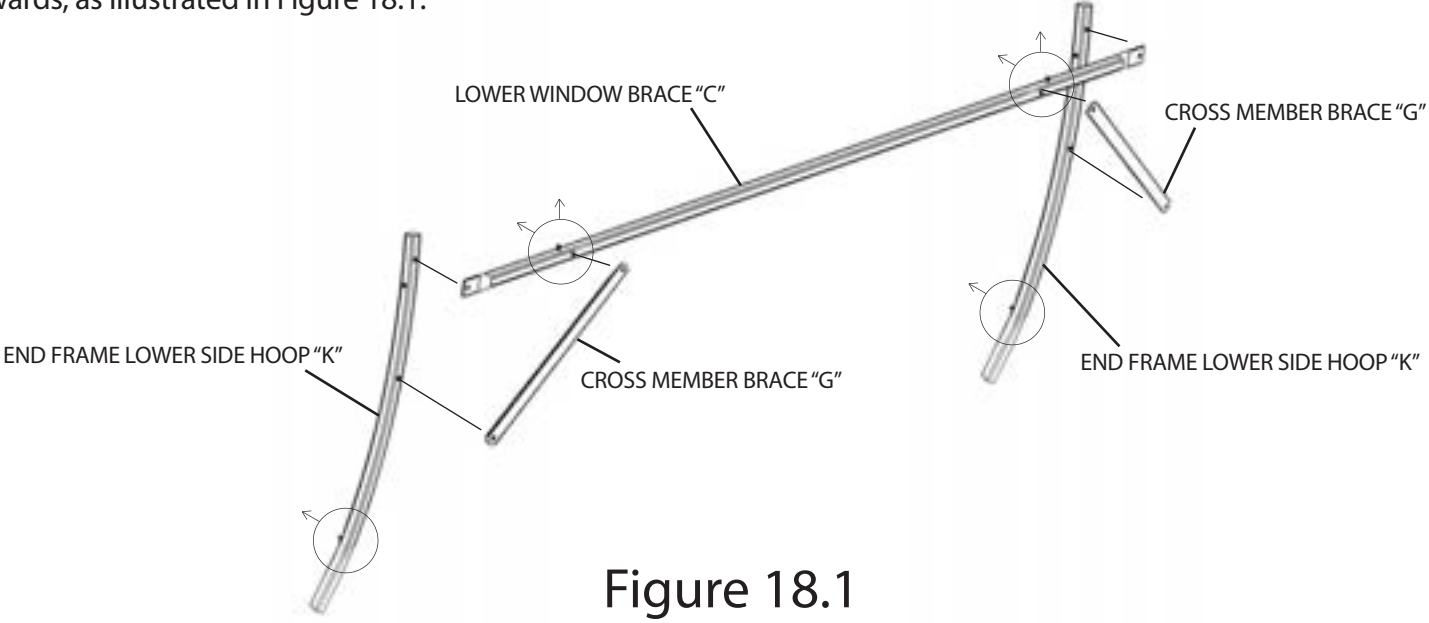

Figure 18.1
STEP 10: Locate the (5) parts that will be assembled to create the fifth section of the bale blind frame. These parts are (2) END FRAME LOWER SIDE HOOPS "K", (1) LOWER WINDOW BRACE "C", and (2) CROSS MEMBER BRACES "G". Using the hardware connection in (2) places, align and fasten the hole ends in the LOWER WINDOW BRACE "C" with the upper most holes in the (2) END FRAME LOWER SIDE HOOPS "K", and fasten with (2) Bolts and (2) Nuts. Next align the hole ends of the (2) CROSS MEMBER BRACES "G" with the corresponding holes in the LOWER WINDOW BRACE "C" as well as the lower holes in the END FRAME LOWER SIDE HOOPS "K", and fasten with (4) Bolts and (4) Nuts, as illustrated in Figure 18.1.
NOTE: Step 10 assembly is similar to Step 3. On the LOWER WINDOW BRACE "C", make sure (2) Set Screws already installed are facing towards what would be the interior of the blind, while the other (2) Set Screws already installed are facing upwards, as illustrated in Figure 18.1.